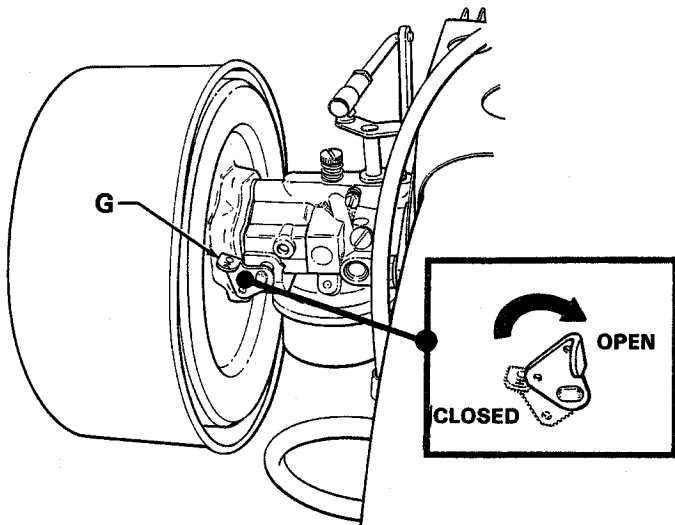

Fig 4
If the engine is cold, close the choke by turning the lever (G) so it is horizontal. See Fig 4. If the engine is warm, or the air temperature is high, open the choke half way or completely.